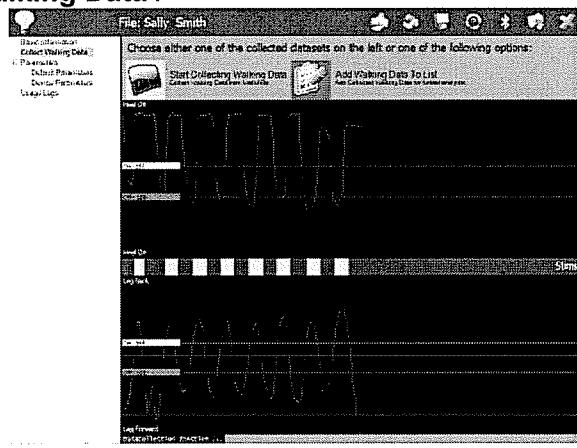

Figure 21 – Add Walking Data to List.
9. Click on the '**Add Walking Data to List**' button in order to proceed with the analysis of the data (Figure 21). Each walking trial for this client will be saved and labeled with a date and time, with the Associated Parameters listed underneath each trial. These files will be listed on the left side of the screen under 'Collect Walking Data'.